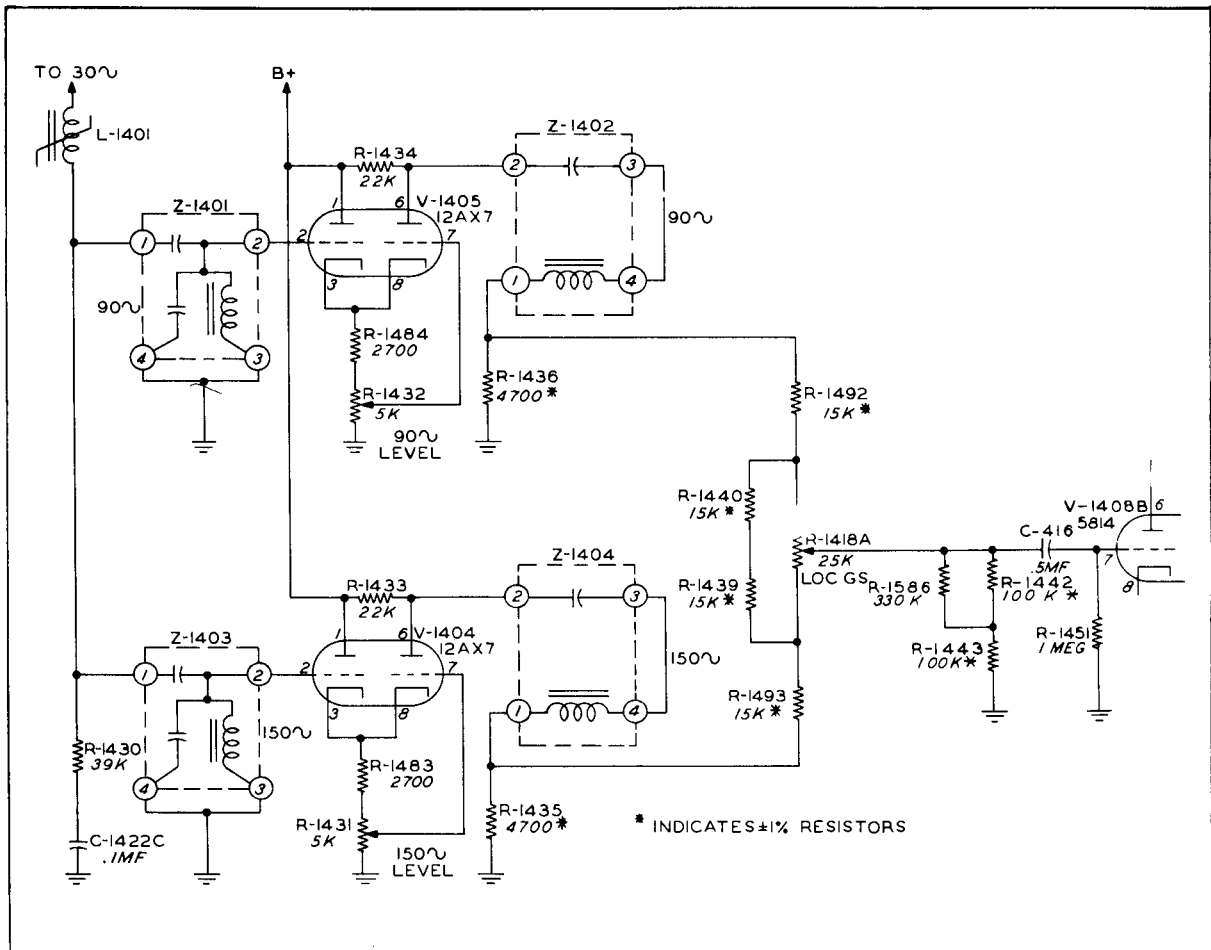
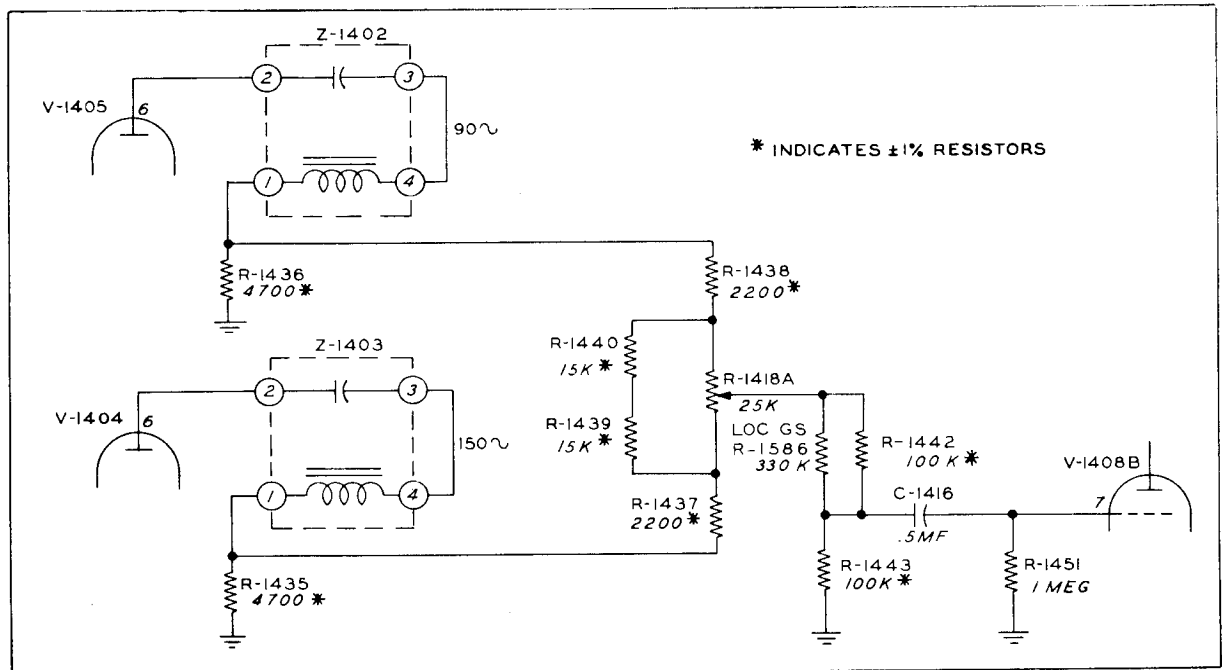
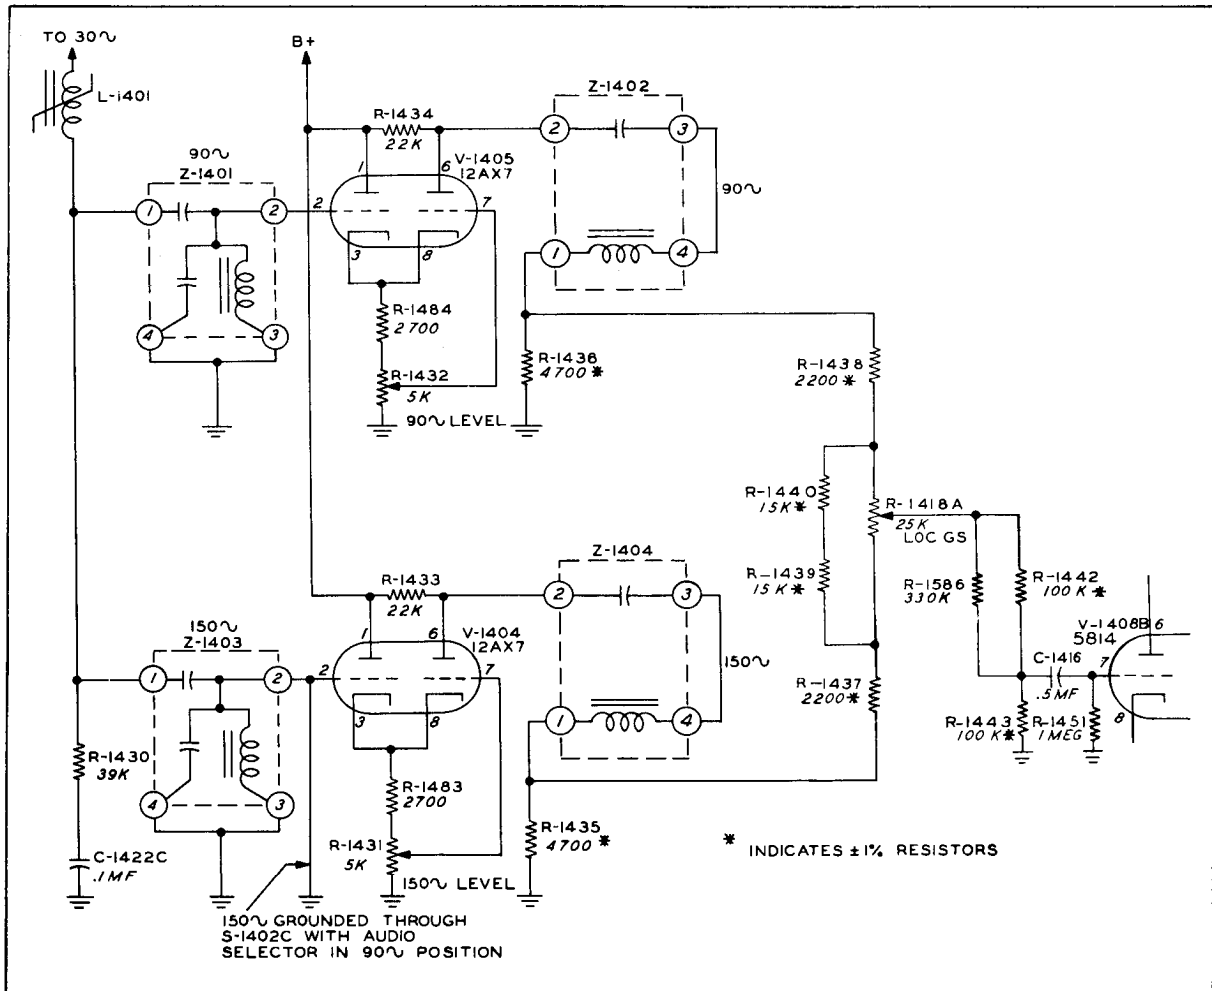
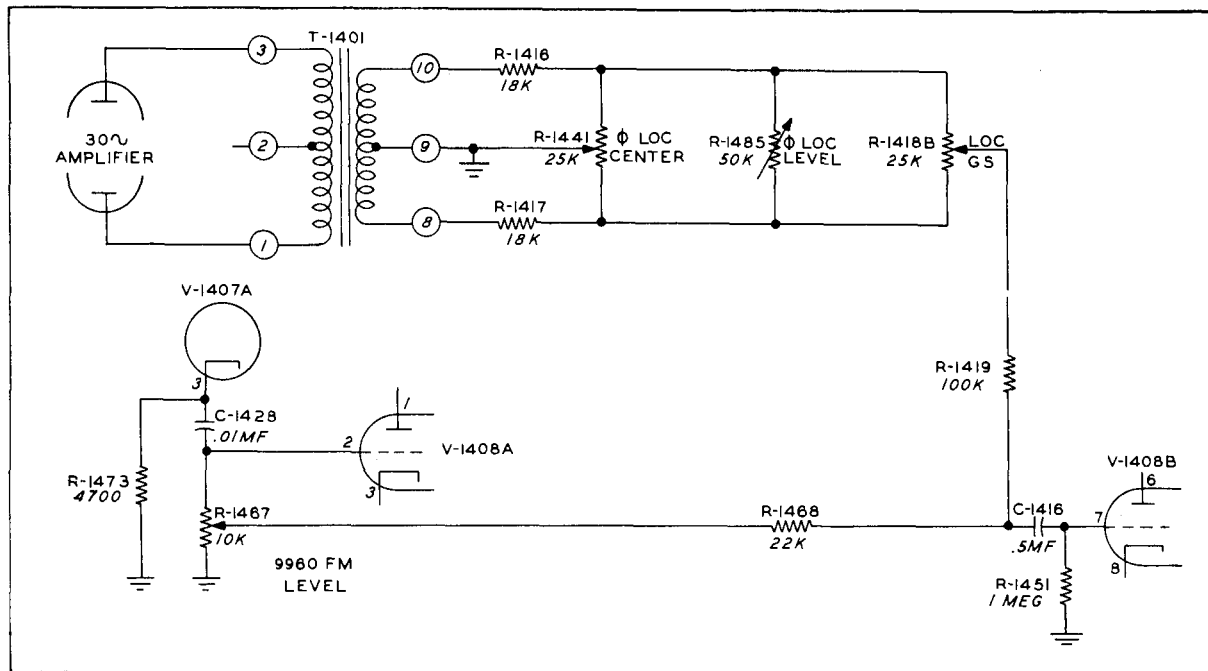

Figure 3-3. Signal Generator SG-13/ARN, Simplified 90-150 CPS Circuit, Audio Selector on GLIDE SLOPE
Figure 3-4. Signal Generator SG-13/ARN, Simplified 90-150 cps Circuit, Audio Selector on TONE LOC
Figure 3-5. Signal Generator SG-13/ARN, Simplified 90-150 cps Circuit, AUDIO SELECTOR on 90°
Figure 3-8. Simplified Signal Generator SG-13/ARN, Phase Localizer Circuit
3-8. GLIDE SLOPE CIRCUIT. See figure 3-3. The 90 and 150 cps signals for glide slope and localizer operation are generated by distorting the 30 cps signal and selecting the third and fifth harmonics by means of filters. Considerable 30 cps voltage is applied across L-1401, a small audio reactor whose core is insufficiently large for the level involved and consequently saturates. This saturation causes the voltage drop across R-1430 and C-1422C to be distorted and very rich in harmonics. The 3rd and 5th harmonics are separated with filters Z-1401 and Z-1403 and
3-9. TONE LOCALIZER. The 90 - 150 cps circuit is practically the same on TONE LOC as it is on GLIDE SLOPE. Some resistor values in the LOC-GS attenuator are changed by switching. See figure 3-4. The 15,000 ohm resistors on each side of R-1418A in the glide slope circuit are replaced with 2200 ohm resistors in the tone localizer circuit. The 90 and 150 cps levels at the center position of the LOC-GS control are still equal, but when the control is set to the top line of the right or left segment the difference in level between the 90 and 150 cps signals is now 6.0 db. At the bottom line of either segment the level difference is now 7.5 db. Since only 20% modulation is required for each tone for an on-course signal in the TONE LOC position, the level applied to the grid of V-1408B is reduced with the voltage divider consisting of R-1586, R-1442 and R-1443.
3-10. 90 CPS AND 150 CPS. See figure 3-5. The schematic shows the connections in the 90 cps circuit when the AUDIO SELECTOR is set to 90°. Note that the circuit is identical to the Tone Localizer circuit of figure 3-4 with one exception (1) the input grid of V-1404 has been shorted to ground to kill the 150 cps signal. With this connection 20% modulation at 90 CPS is obtained when the LOC-GS control is set in the middle of the white center sector on the panel. In the 150° position the 90 cps signal is disabled and 20% modulation at 150 cps is obtained when the LOC - GS control is set in the middle of the white center sector on the panel.
paragraph 3-5, and the 30 cps reversible phase signal is derived from a bridge circuit connected to one of the secondaries of T-1401. See figure 3-8. The two signals are fed through isolation resistors R-1419 and R-1468 and applied simultaneously to the grid of amplifier V-408B. The bridge circuit is adjusted with the \emptyset LOC CENTER control so that no 30 cps voltage will be applied to the grid of V-1408B when the LOC-GS control is set in the middle of the white center sector on the panel. This simulates an on-course signal. As the LOC-GS potentiometer is turned off center, a 30 cps signal in-phase with the 30 cps reference phase signal or 180 degrees out-of-phase with it will appear on the grid of V-1408B, depending upon the direction of rotation. The amplitude of this 30 cps signal depends on how far off center the LOC-GS potentiometer is set. With the potentiometer set on the top line of either the right or left segment this 30 cps signal should modulate the r-f carrier 11.5%; on the
3-14. OUTPUT MIXING AND SWITCHING. In order to combine the various signals generated in the proper proportions to provide the functions desired, it is necessary to mix these signals and switch them to a common output. For the VOR position, 30 cps variable phase and 9960 FM are required. The output level of the 30 cps variable phase signal is adjusted by R-1446 while the 9960 FM output is adjusted with R-1467. Resistors are connected in series with the arms of both potentiometers for isolation. For the ϕ LOC position, 9960 FM and 30 cps reversible phase are combined. See figure 3-8. The 30 cps variable phase signal is disabled by shorting the junction of R-1444 and R-1445 to ground through S-1402C. In the TONE LOC position the circuit shown in figure 3-4 exists. Connections for the GLIDE SLOPE position are shown in figure 3-3. It is necessary to set the NAV-GS switch to GS to set up the proper glide slope carrier frequency. In the 1000 \sim position, the 9960 cycle oscillator has a 1000 cycle phase shift network switched in by S-1402D. The 1000 cycle level is controlled by R-1464. The 30 \sim VAR ϕ position provides a signal useful for calibration since it is the 30 cps variable phase component of the VOR signal. It is obtained by simply omitting the 9960 FM. The 9960 FM position is the other half of the VOR signal and is obtained in a similar manner. In the 90 \sim position the 150 \sim is disabled by shorting the grid of the 150 cps limiter to
ground through S-1402C. See figure 3-5. In the 150 \sim position the reverse situation takes place. Mixed signals from the switching network are fed to the grid of V-1408B, an amplifier common to all signals.